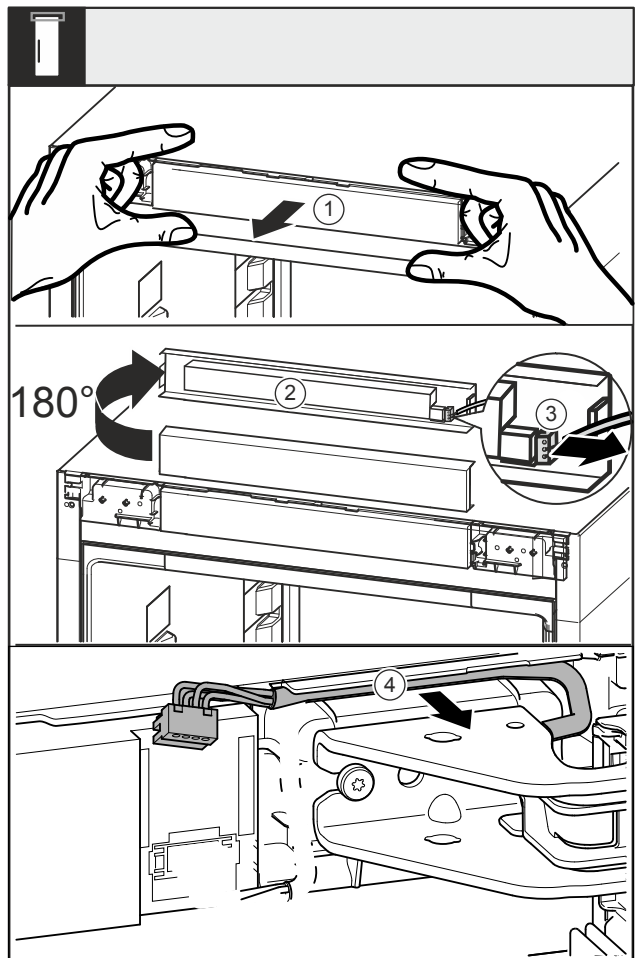

Fig. 16
- ▶ Loosen the trim Fig. 16 (1) towards the front.
- ▶ Turn the trim Fig. 16 (2) upwards by 180°.
- ▶ Push the locking tab on the plug Fig. 16 (3) backwards and remove the plug carefully.
- Release the cable over the swap bearing block Fig. 16 (4) from the guide.